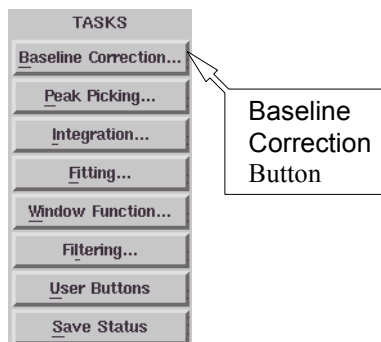

Figure 6-14 Launching the Baseline Correction Task.
2. **Start the Baseline Correction Task.** Click the Baseline Correction button in the TASKS menu to launch the Baseline Correction Task. (See Figure 6-14.)